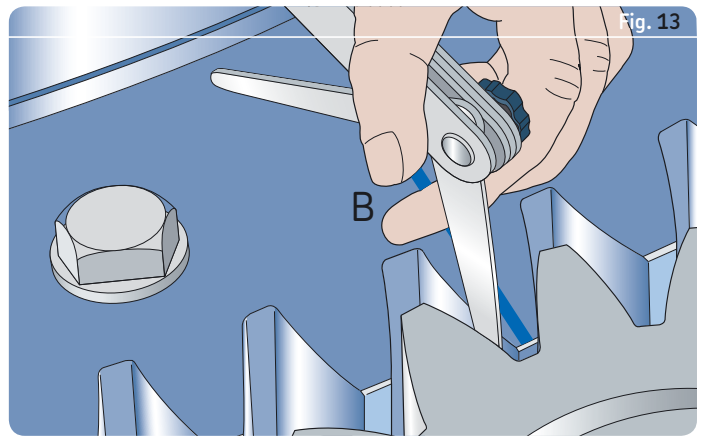

Fig. 13
- 16 For geared slewing bearings, check the backlash, using a feeler gauge, after positioning the pinion (**fig. 13**). The measurement has to be made at the **blue mark** on the bearing gear, which indicates the point where the backlash is smallest. Required values for backlash are listed in **table 1** on **page 25**. If these values are not attained, correct the backlash by adjusting the distance between the centres of the gear wheels.